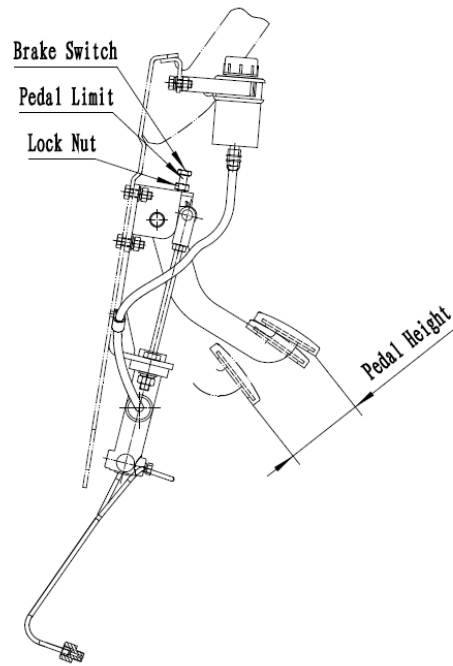

Fig 8-2
- (1) Adjust the push rod to be short.
- (2) Adjust the catch bolt, to adjust the pedal height as indicated in Fig 8-2.
- (3) Push down the brake pedal, and adjust the push rod to be long, until the front end of push rod contacts the master cylinder piston rod.
- (4) Screw down the lock nut for the push rod.